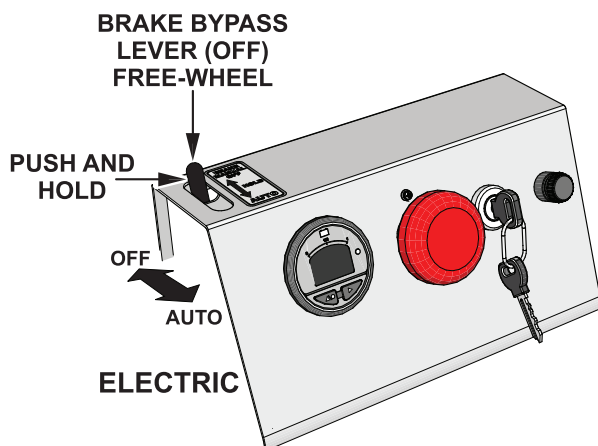

**Figure 55. Transmission Bypass Lever (Free-Wheel)**
1. **Pull up** on the transmission bypass lever (Figure 55).